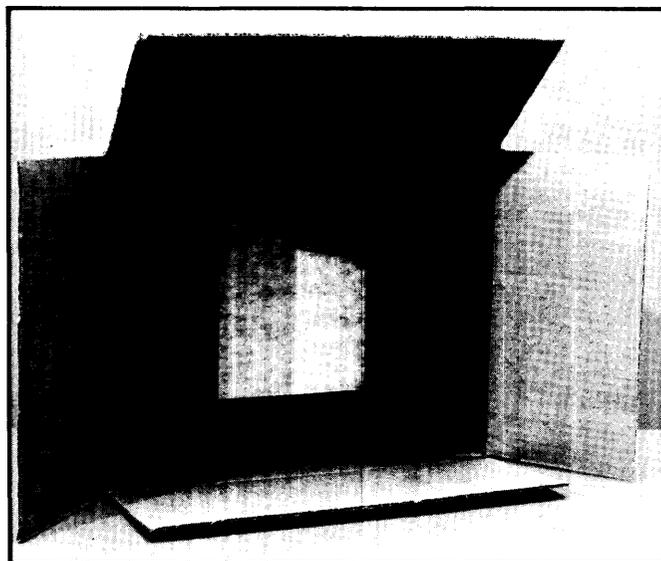

Figure 5-18: Outer Box
5. Now place the entire package into the large outer box (P/N 9211-3595) as shown in Figure 5-18 and seal with reinforced packaging tape.